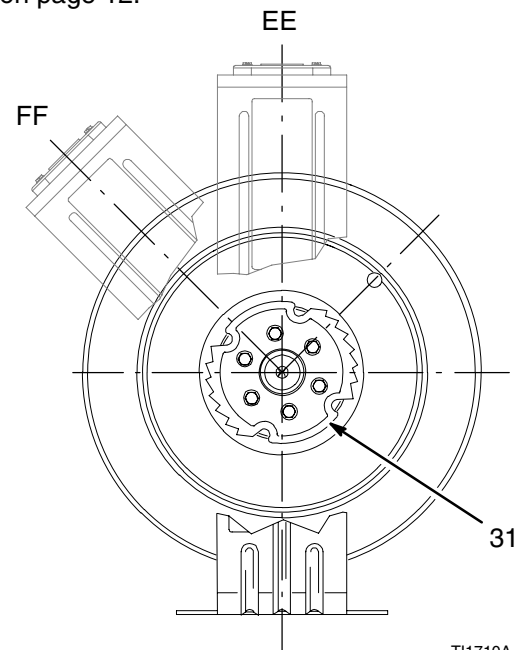

Fig. 5
- If the desired roller support arm (37) position is EE or FF, rotate the ratchet (31) clockwise one screw hole (60°). This will assure retraction when the hose is at maximum extension. See Fig. 5.